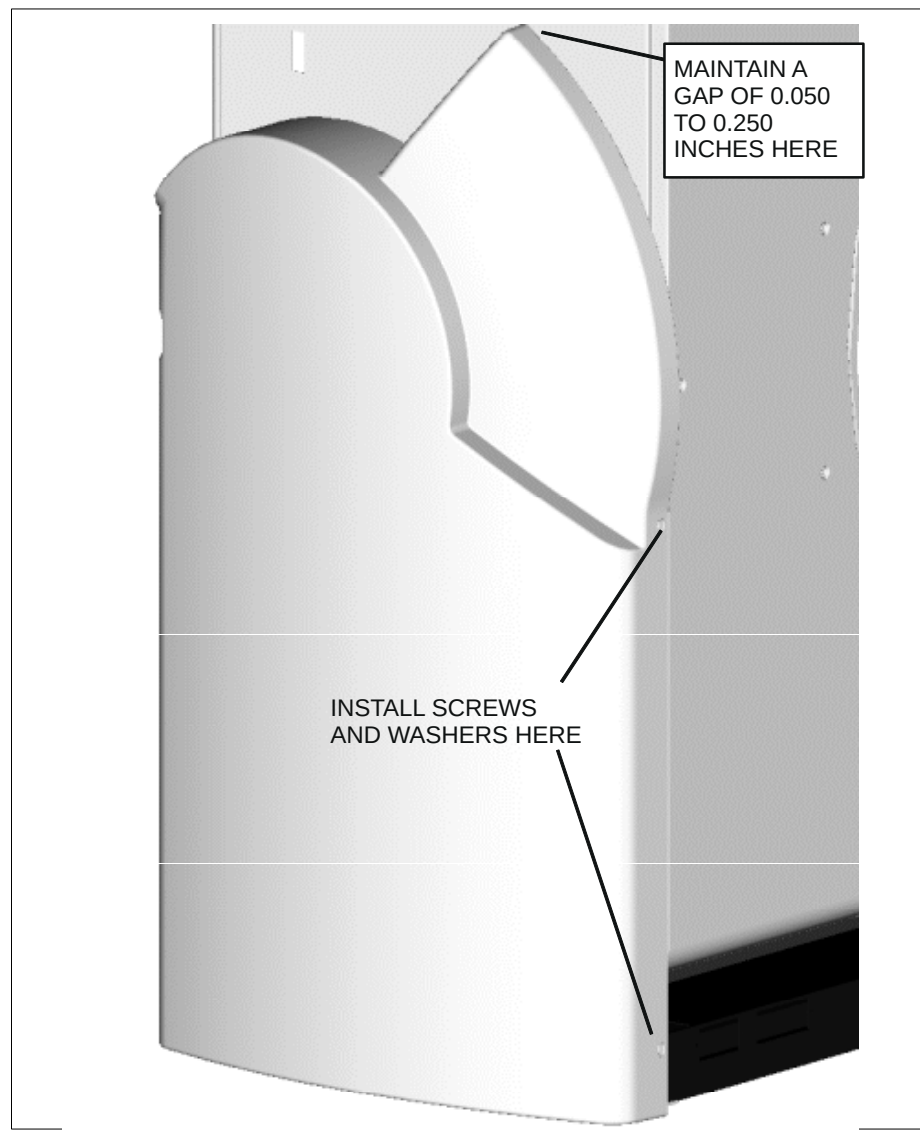

FIGURE 9 FASTENING LOWER SIDE COVER
6. Fasten the Lower Right Column Cover to the Gantry Column using the two screws (1/4"–20 x 3/4", Pan Head) and two nylon washers provided. Maintain a gap between the top of the Column Cover and Gantry Side Panel in the range of 0.050 to 0.250 inch. Refer to Figure 9.